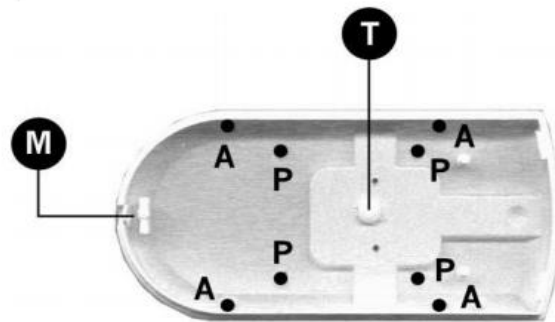

Fig. 1 Bottom of the container
- Remove the front cover and then the card by pulling back the plastic clip (M see Fig. 1 Bottom of the container).